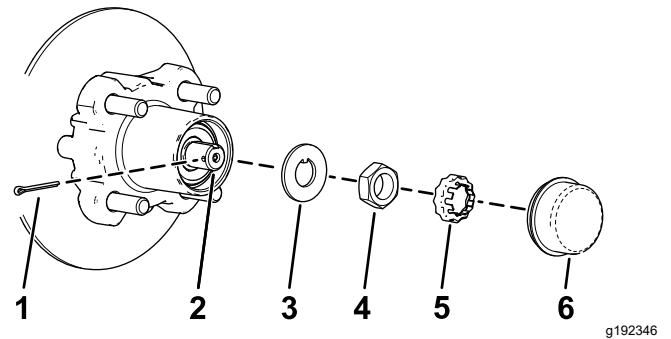
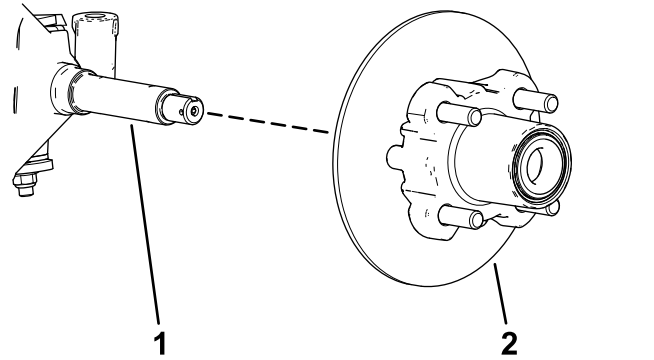

Figure 22
Figure 23
- Remove the dust cap from the hub (Figure 22).
- Remove the cotter pin and nut retainer from the spindle and spindle nut (Figure 22).
- Remove the spindle nut from the spindle, and separate the hub and rotor assembly from the spindle (Figure 22 and Figure 23).